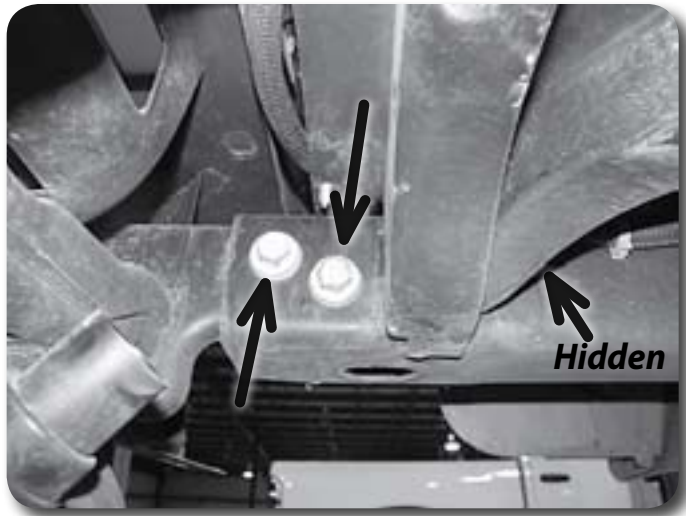

Figure 18
25. Remove the three bolts mounting the rear bumper/hitch to each of the frame rails and remove the bumper/hitch from the vehicle **Figure 18**. Save hardware